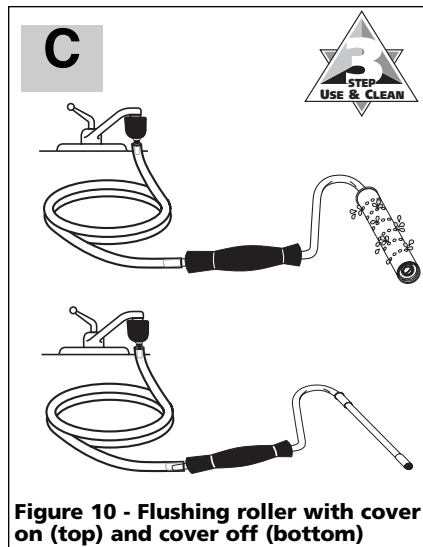

Figure 10 - Flushing roller with cover on (top) and cover off (bottom)
- 4b. Fill canister with warm water. Using faucet adapter, clean tubing and roller frame (and roller cover, if desired) by attaching large end of faucet adapter to the faucet and inserting small end into tubing (see Figure 10). The faucet will create pressure as warm tap water flows through it. This will clean tubing and roller frame.